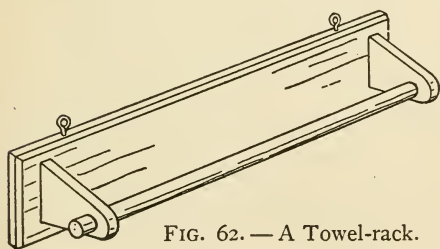

FIG. 62. — A Towel-rack.
**A Towel-rack**, such as is shown in Fig. 62, is made in four pieces, — a board about eighteen inches long for